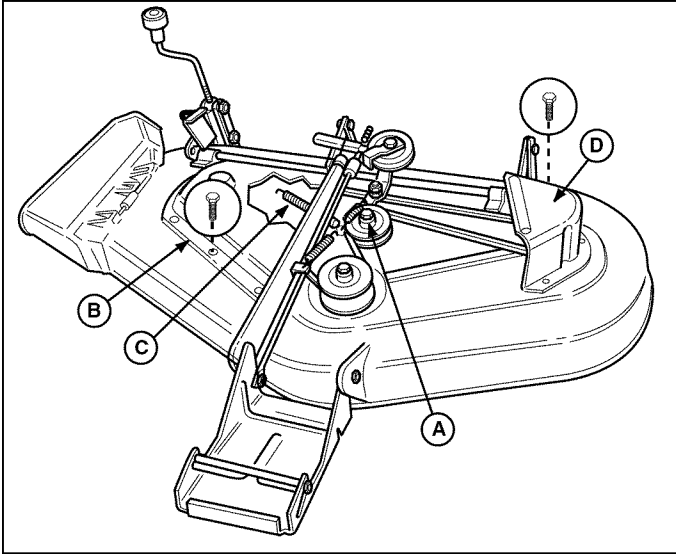
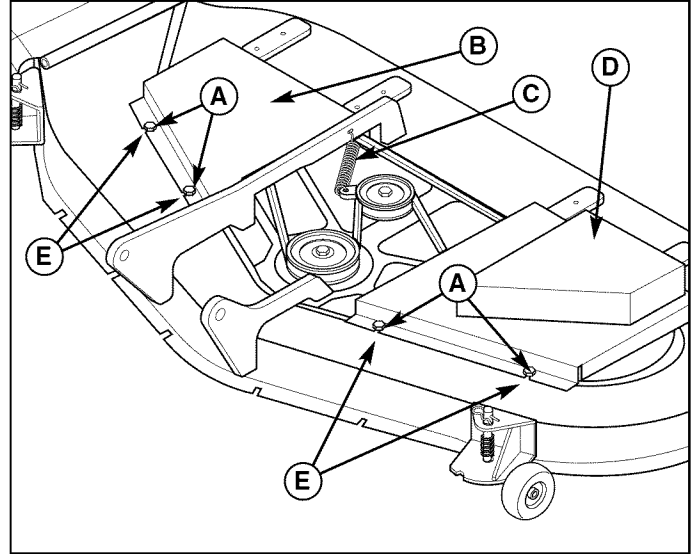

Figure 55. Mower Deck - 44" & 50" Mowers
Figure 56. Mower Deck - 54" Mowers
3. Remove the capscrews securing the right-hand arbor cover (B, Figure 55). Remove three capscrews securing left-hand arbor cover (D).
3. Remove the PTO belt. Remove the taptite screws (A, Figure 56) securing the belt covers and remove the belt covers (B, D).
4. Using a pair of locking pliers or a spring puller, remove the idler pulley spring (C, Figures 55, 56) from slot in deck.
5. Loosen capscrew (A, Figure 55) securing the idler pulley to the bracket. The belt can now be slipped between the pulley and idler bracket hub.
7. Tighten the capscrew (A, Figure 55).
8. Reinstall spring (C, Figures 55, 56) into its slot in mower deck.
9. Reinstall the left and right arbor covers (B and D, Figures 55, 56). **54" Models:** To provide proper belt cover clearance, make sure the alignment notches (E, Figure 56) are centered on the taptite screws (A).